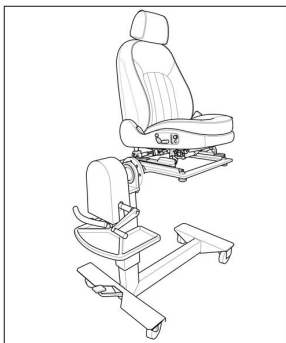

Figure 25
2. To replace the proximity sensor, and control module cover - Refer to workshop manual Rep.Gr 72 Seat frames - Fronts seat repair stand VAS 6136 to prepare the repair stand is as shown in Figure 25. The operative should ensure all procedures are followed as detailed to avoid damage to personnel and/or the seat